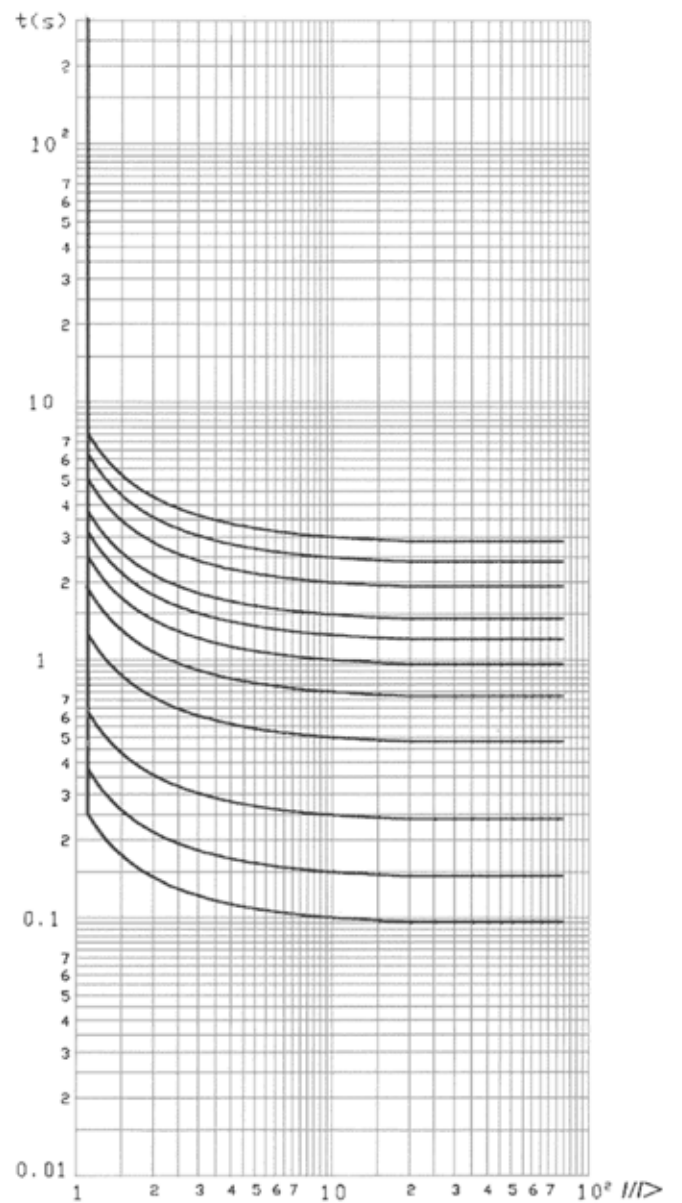

Fig. 5 - RMSA7992 - Slightly inverse curves to IEC 255-4
- Other curve (see figure 5)
- slightly inverse (FI)